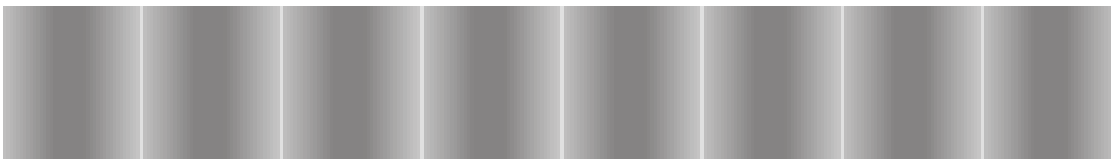

Fig. 44: Test Image One
- If the camera is set for an exposure mode that uses an ExSync signal, the ExSync signal must be present and must toggle in order to output a line on the test image. Multiple transitions of the ExSync signal will produce a two dimensional image as shown in Figure 44 on page 125 or Figure 46 on page 126.